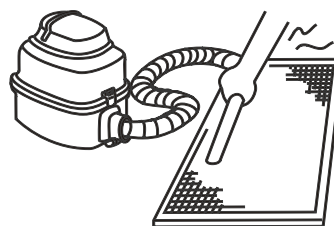

Figure 13.3
- a. The air intake side should face up when using a vacuum cleaner. (Refer to Figure 13.3)